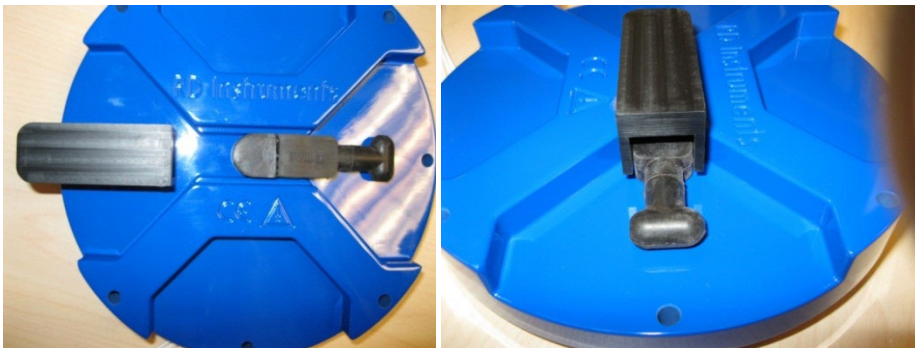

Figure 53. Extracting Wrench
10. Place the Extracting Wrench over the connector and dummy plug. The wrench will fit into the End Cap slot between the 2 rails (see Figure 53).